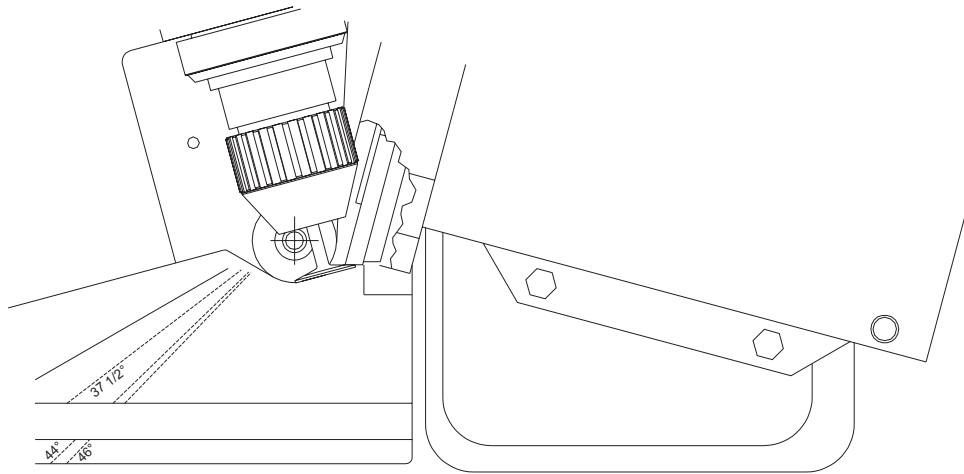

Figure 11
8. Set carriage plate stop nut, see Fig. 8, located under the left skirt so that right edge of valve face is at right edge of wheel, being careful that grinding wheel does not touch valve stem. The wide grinding wheel is for operator's convenience and sometimes the full face of wheel cannot be used. This should not cause any problem. The wheel could be undercut by dressing an additional .005" (.1 mm) off the right portion of the face of wheel and about 1/8" wide. This will actually narrow the effective face of wheel. See Fig. 11.